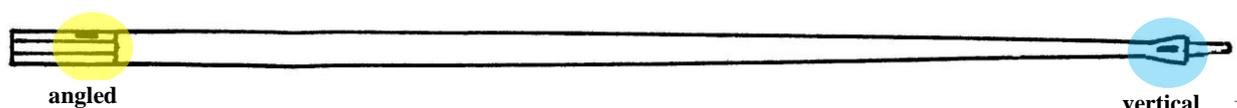

Figure 5: Jibboom Pulley Inclinations
- there are two *in-line sheaves* mounted into the mast – the outboard is vertically aligned (shaded blue in Fig. 5) and the inboard is inclined at a 45° angle (shaded yellow)